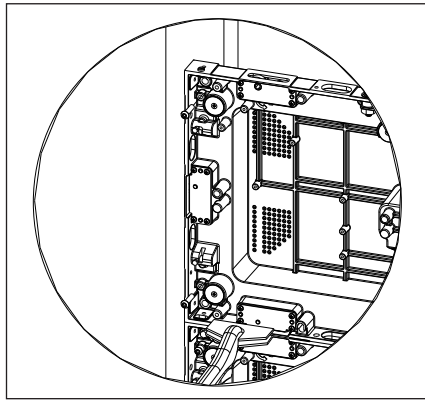

Figure 11: Tighten Jacking Hardware
- 6. Tighten the jacking hardware next to the existing panel until the panel is firmly seated against the tube. Refer to **Figure 11**. Tighten the remaining adjustment hardware until it contacts the tube.